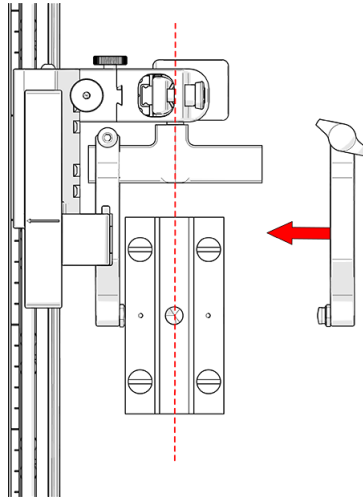

Figure 3-23 Reinstalling the outer arm
5. Align the middle of the wedge with the center of the yoke (see Figure 3-23 on page 58).